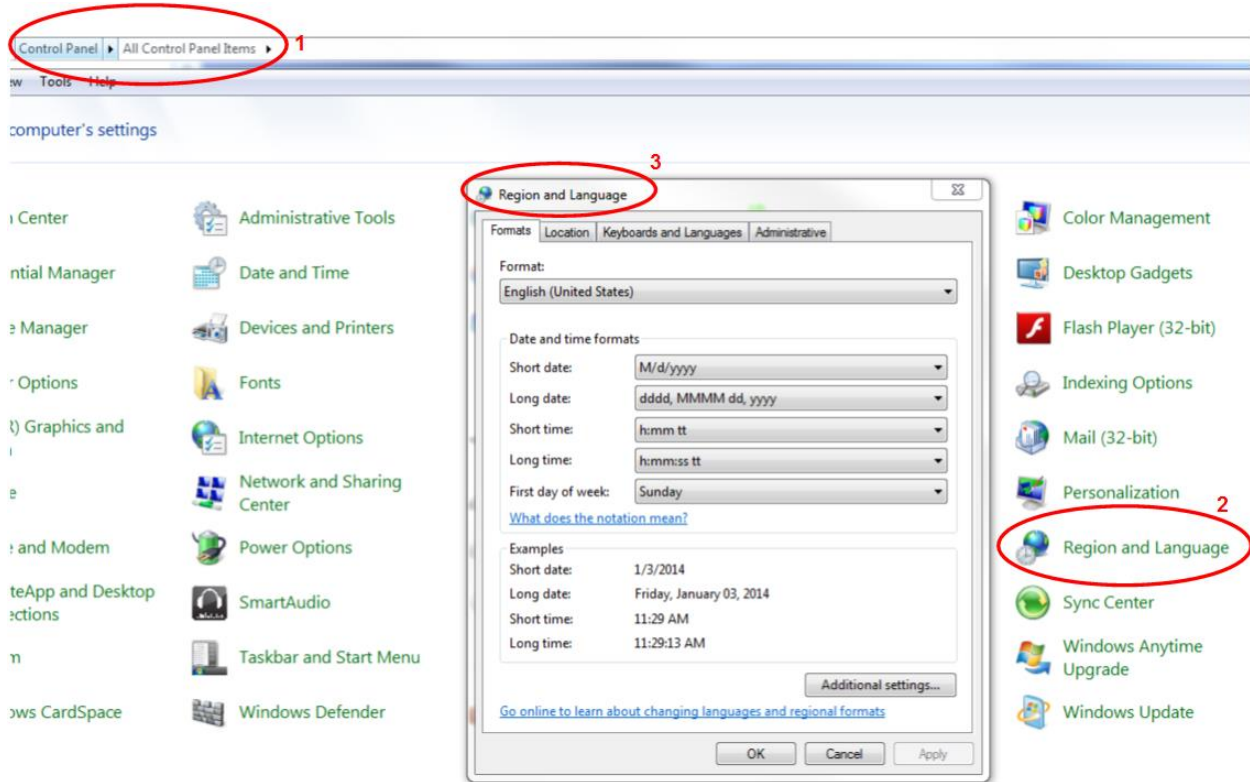

Figure 254: Region and Language Selection
- When the Computer Settings window displays, click on the Region and Language selection (labeled 2 in Figure 254). This causes the Region and Language window to display (labeled 3 in Figure 254).